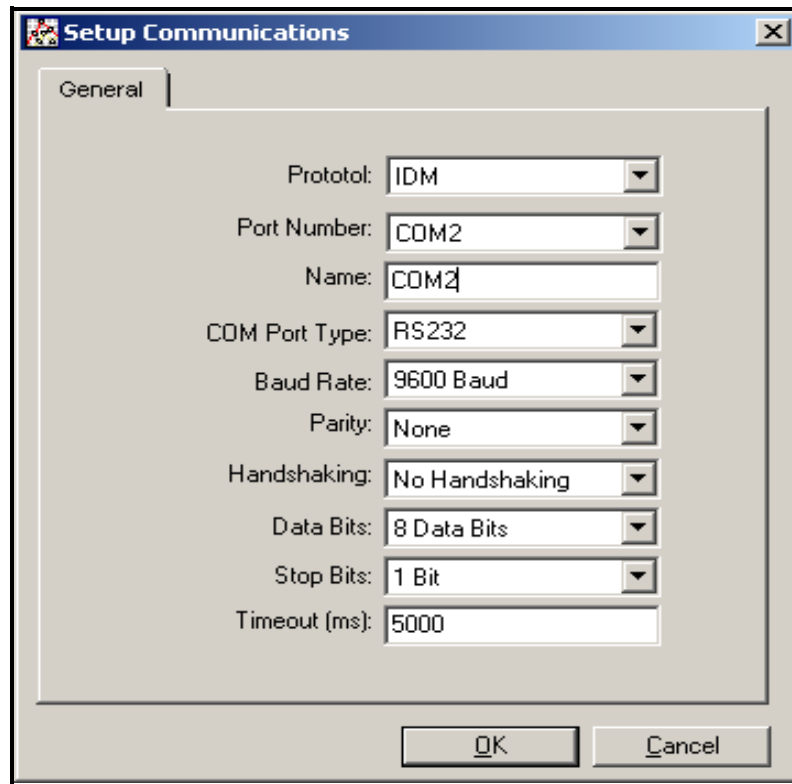

Figure 19: Setup Communications Screen
4. Click on the "Communications Port" option to select it. The *Setup Communications* screen appears similar to Figure 19.